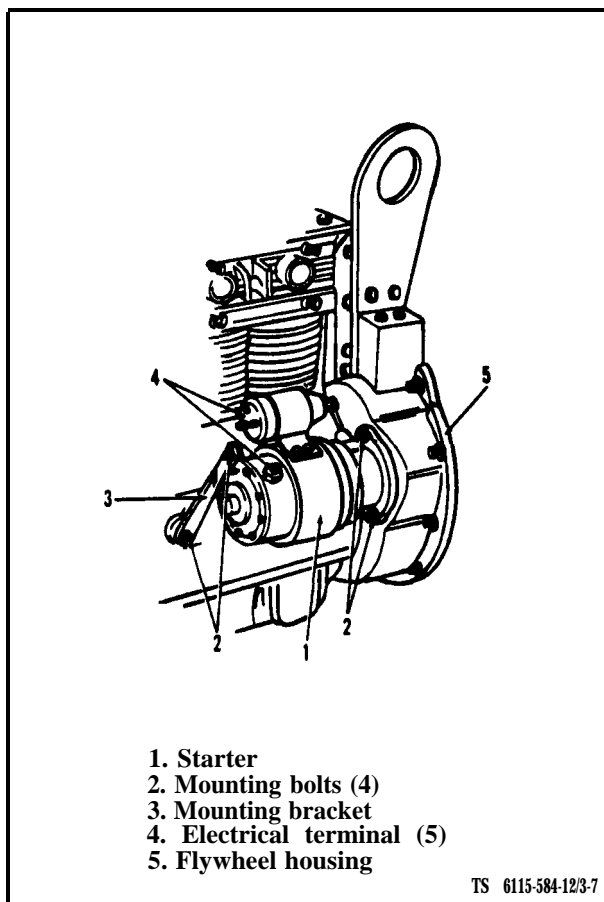

Figure 3-7. Electric Starter
a. Cleaning and Inspection (see figure 3-7). On ASK equipped generators, remove BATTERIES access door. Clean engine starter (1) by removing loose dirt with a stiff nonmetallic brush. Clean off remaining dirt and oil with dry cleaning solvent (Fed. Spec. P-D-680). Inspect starter to see that electrical connections (4) are clean and tight. Check to see that mounting bolts (2) are tight. Check starter (1) for physical damage.